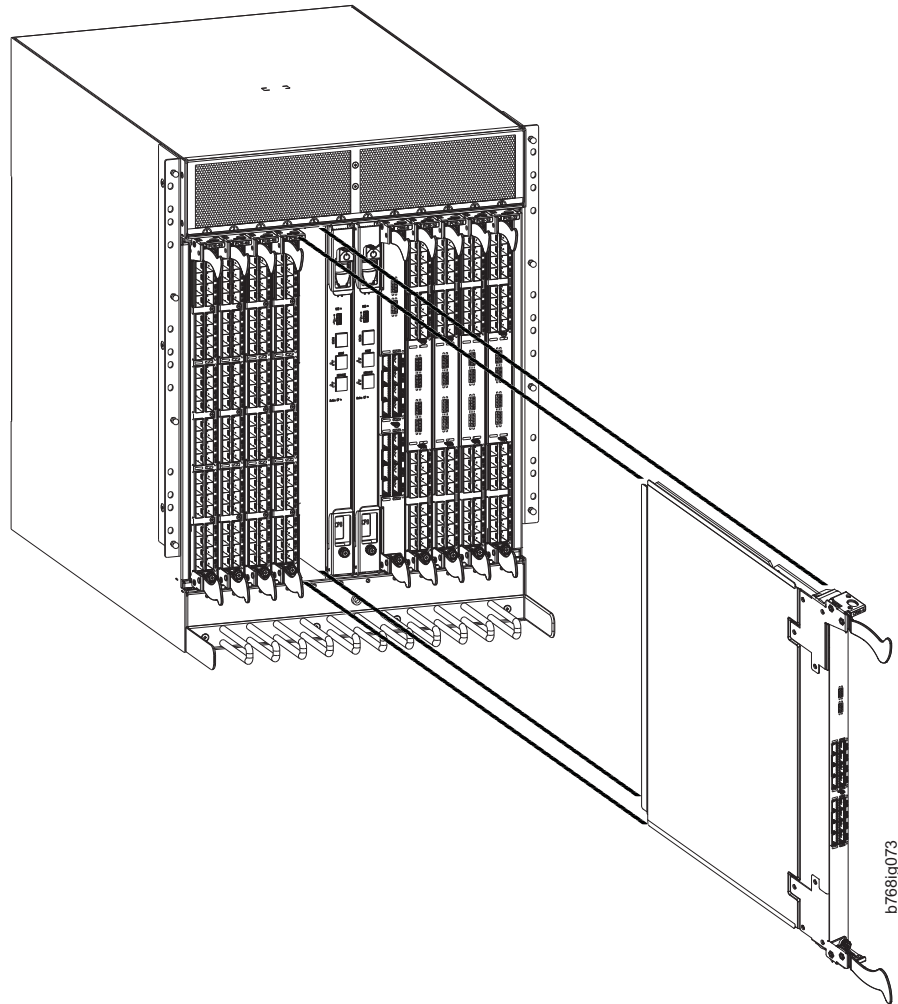

Figure 36. Removing the core switch blade
This section describes how to remove and install a core switch blade. Each SAN768B-2 has two core switch blades: one in slot 5 and one in slot 8. See Figure 36 on page 99.
4. Open the ejectors by rotating them toward the center of the blade face. Pull the blade out of the chassis using the ejectors. (see Figure 36 on page 99).